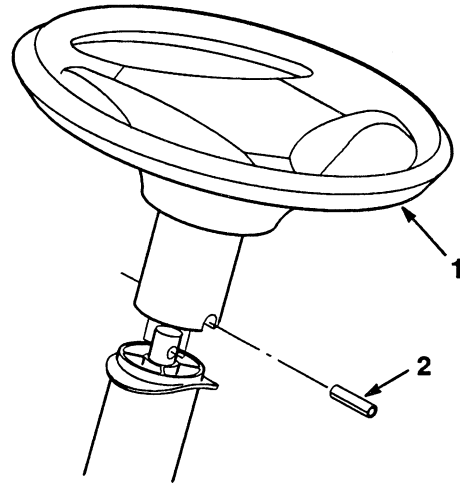

Figure 2
2. Slide the steering wheel over shaft. Line up the hole in the steering wheel with the hole in the shaft (Fig. 2). From the seat you should be able to read the brand logo on the steering wheel.
4. Using a hammer, drive the roll pin in until it is flush with the outside of the steering wheel (Fig. 2).